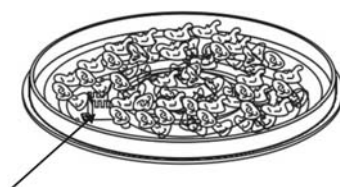

Figure 7
7. Remove the cardboard cover from the ignition well as shown in Figure 7. Remove any fire ice on top of the ignition well.